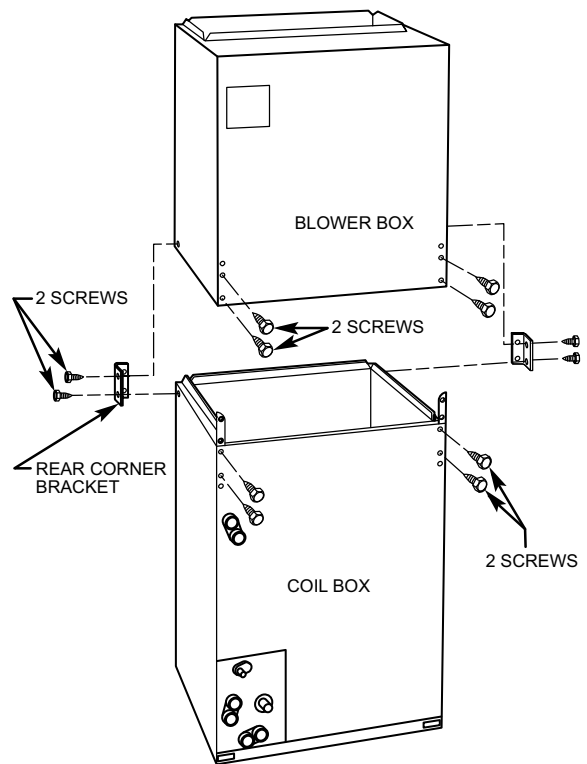

Fig. 7 – Removal of Brackets on Modular Unit
To disassemble unit, remove rear corner brackets by removing 2 screws which secure brackets. Remove either 2 screws in each front corner of coil box, or 2 screws in blower box (Fig. 7). Do not remove all 4 screws in each corner. Sections may now be separated by lifting top section from lower section.
- b. Remove air splitter (B) from coil seal assembly by removing 3 screws (Fig. 7 inset).
- c. Remove filler plate (A) and install air splitter (B) in place of filler plate.
- d. Install filler plate (A) as shown in horizontal right application.
- e. Remove condensate troughs (C) and install on opposite tube sheets.